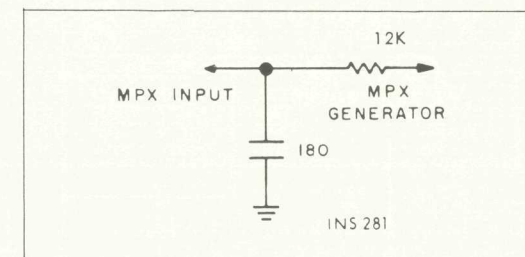

FIGURE 1. Multiplex-alignment pass filter circuit.
- Connect sweep generator to point 3B of IF amplifier board. Adjust top and bottom cores of Z301 and Z302, and bottom core of Z303 for maximum gain and a symmetrical response curve (Figure 1) on scope. Adjust
Disconnect the ratio detector from the multiplex unit before using this procedure. A low-pass filter (Figure 1) is used between the MPX generator output and the input to the multiplex circuitry. It has about the same loading effect as the output of the ratio detector in the tuner.